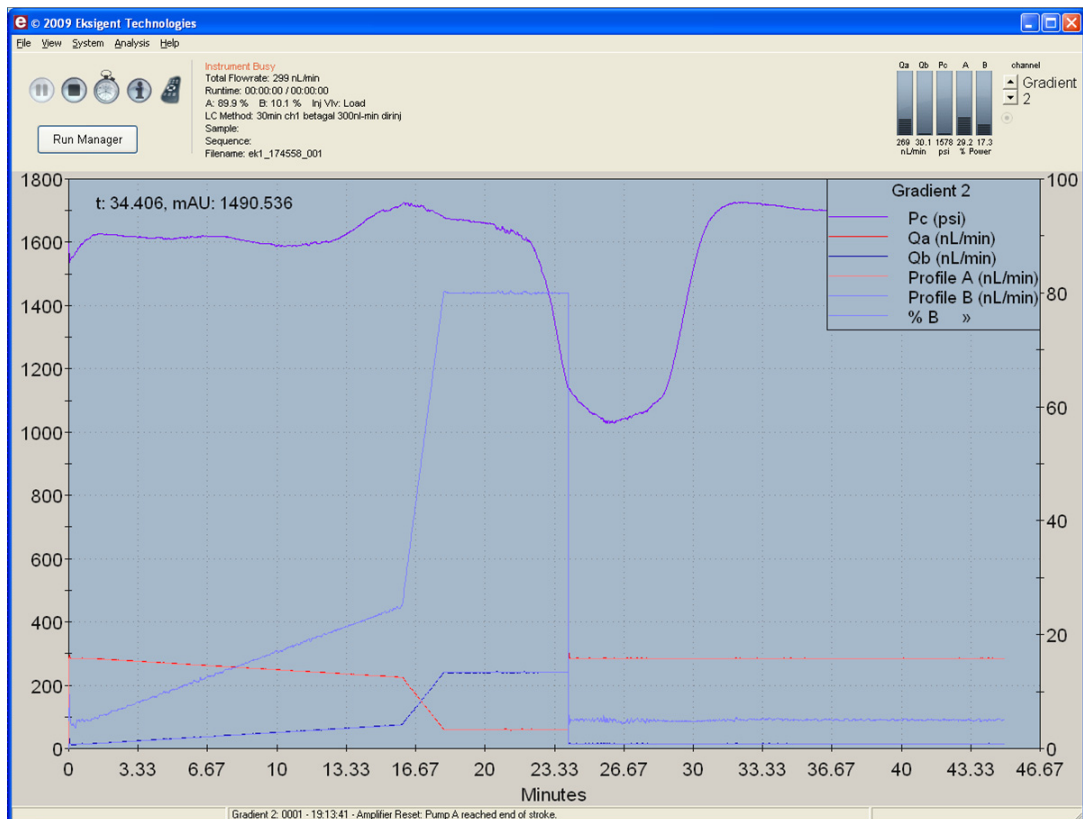

Figure 2-30 Good pressure profile for a direct injection NanoLC Ultra system run
- **Figure 2-30** shows a minimal pressure change upon injection and a 30% pressure decrease during the high organic flush.